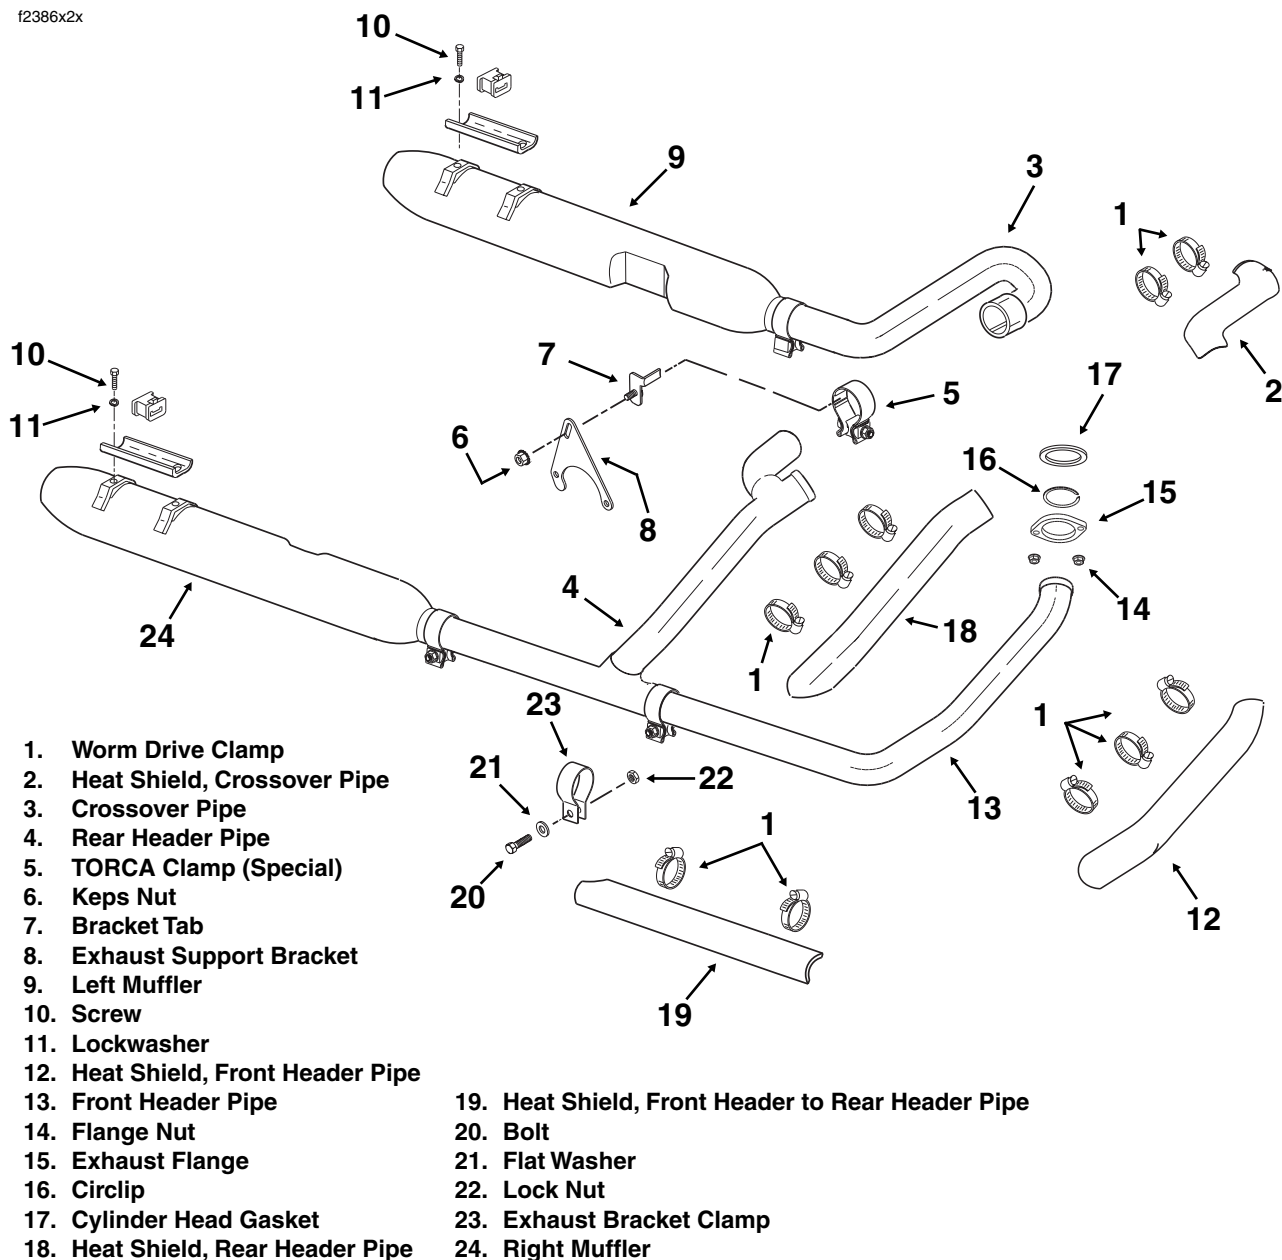

Figure 2-206. Remove/Install Exhaust System
- a. Open worm drive clamps to release heat shield over rear header pipe to crossover pipe connection (above starter). See Figure 2-206.
1. See Figure 2-206. Install exhaust system as follows: